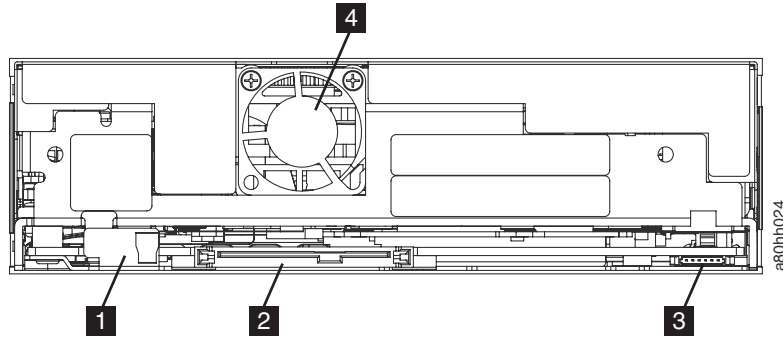

Figure A-12. Rear panel of the SAS Half-high drive
4. Disconnect the internal SAS cable (2 in Figure A-12).
5. If connected, disconnect the internal LDI (RS-422) cable from the LDI (RS-422) connector (3 in Figure A-12).